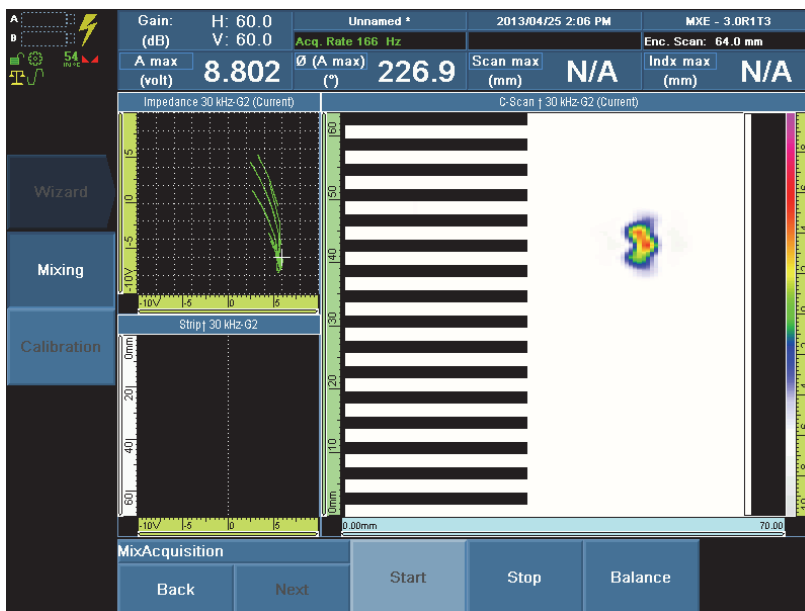

Figure 9-11 Scanning the good fastener in the Mix Acquisition step
- Select **Start**, and then scan the good fastener (see Figure 9-11 on page 141).